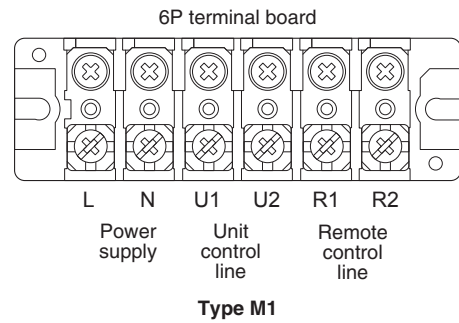

Fig. 4-2
- (1) Refer to Section “4-2. Recommended Wire Length and Wire Diameter for Power Supply System” for the explanation of “B”, “C”, “D” and “E” in the above diagram.
- (2) The basic connection diagram of the indoor unit shows the terminal boards, so the terminal boards in your equipment may differ from the diagram. (Fig. 4-2)
- (3) Refrigerant Circuit (R.C.) address should be set before turning the power on.
- (4) Regarding R.C. address setting, refer to the installation instructions supplied with the remote controller unit (optional). Auto address setting can be executed by remote controller automatically. Refer to the installation instructions supplied with the remote controller unit (optional).